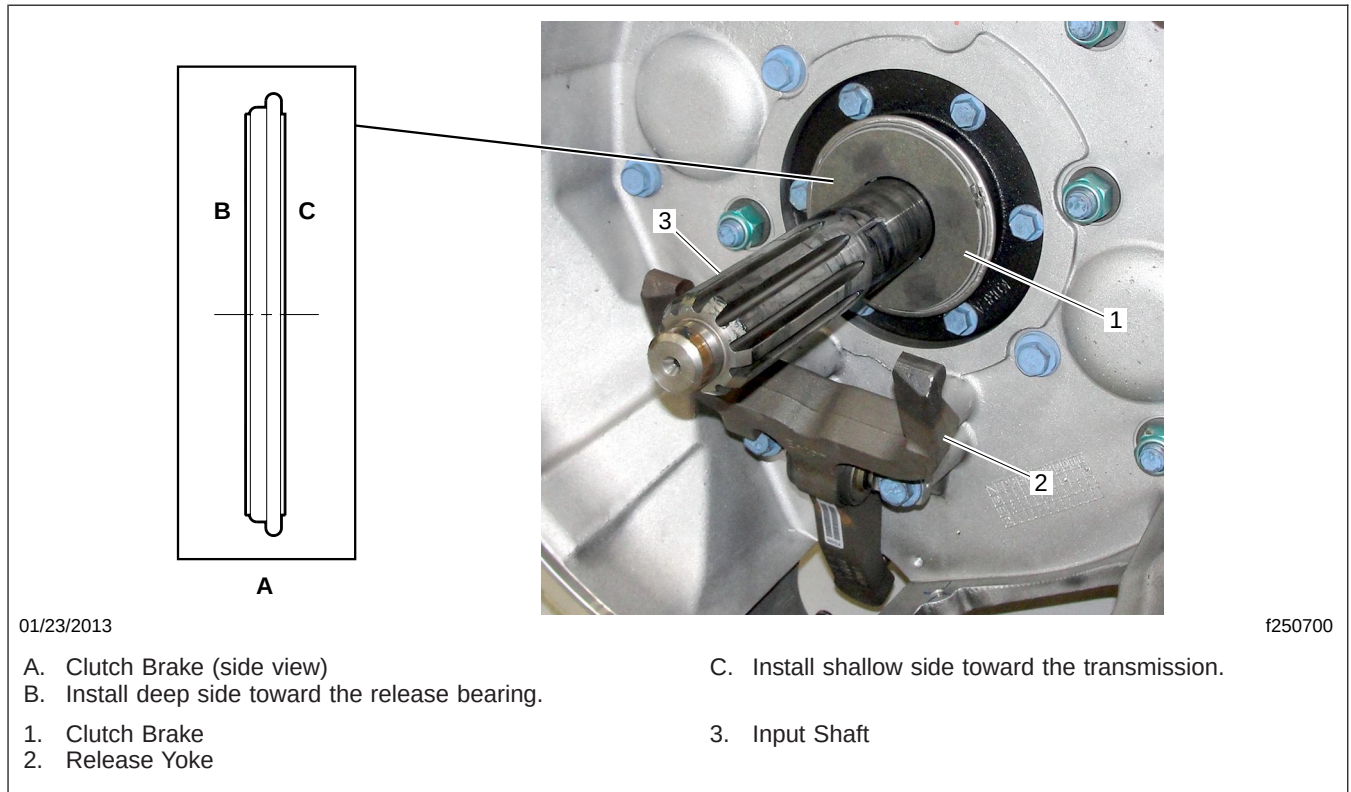

Fig. 3, Clutch Brake Installation
1. If the clutch brake was removed, install the clutch brake on the transmission input shaft. See Fig. 3. Slide it tight against the input shaft bearing cap.